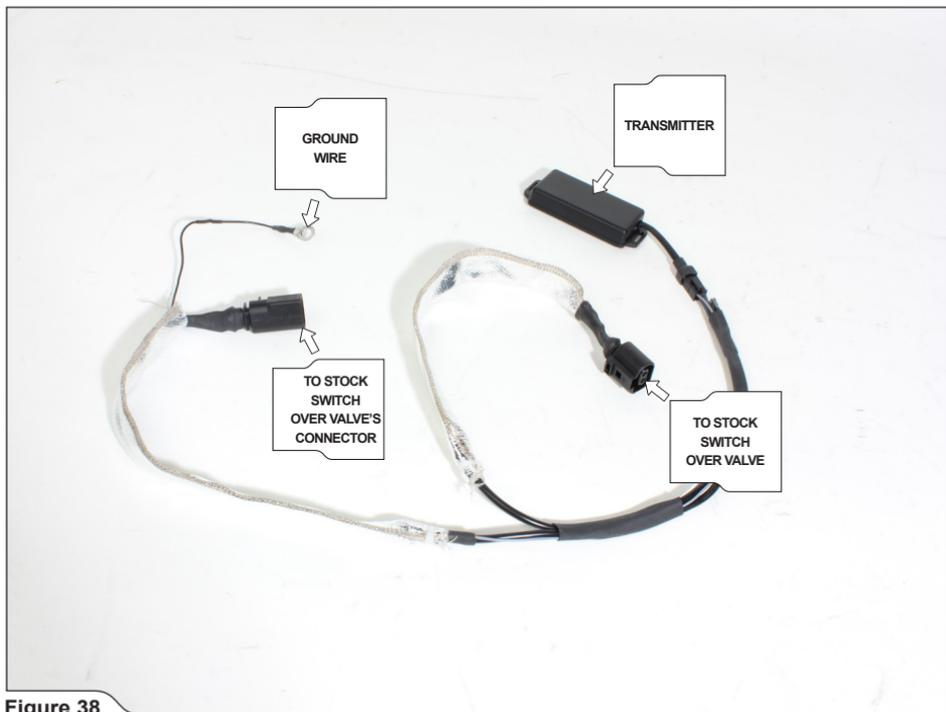

Figure 38
13. **Installation of Wireless Kit:** the Wireless Kit components (**Figure 38**).